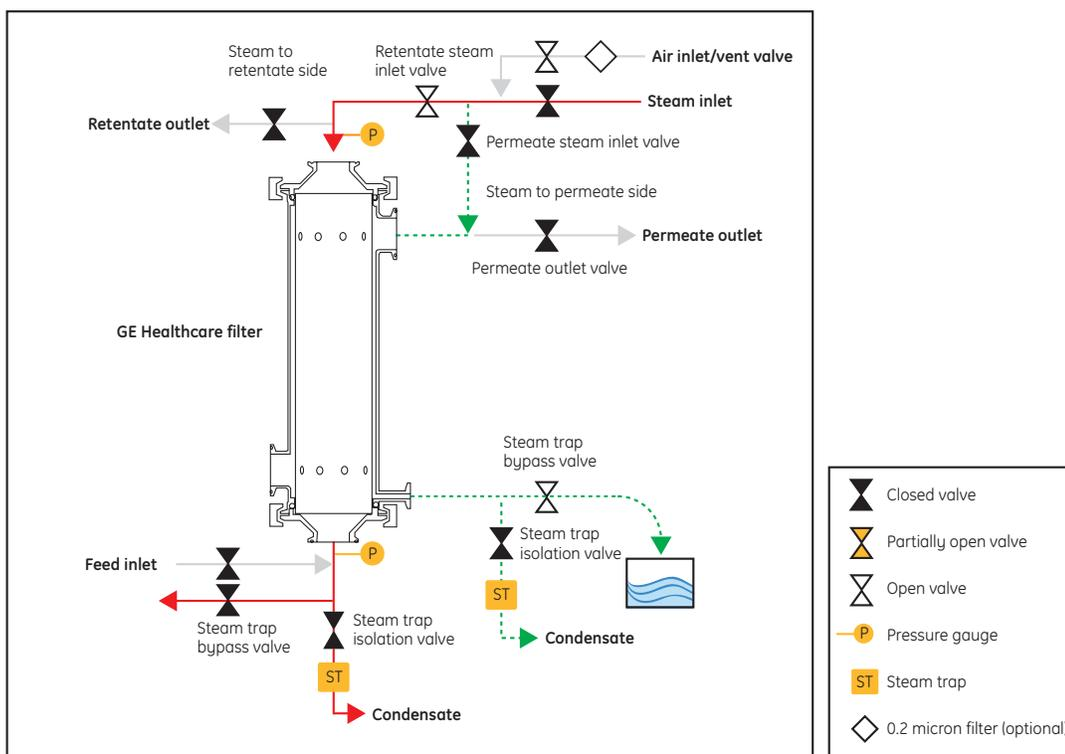

Figure 10. Starting setup for Stage 4—check filter integrity
1. Close all valves except the air inlet/vent valve, retentate steam inlet valve, and permeate steam trap bypass valve (Fig 10).
- Figure 10. Starting setup for Stage 4—check filter integrity, 20